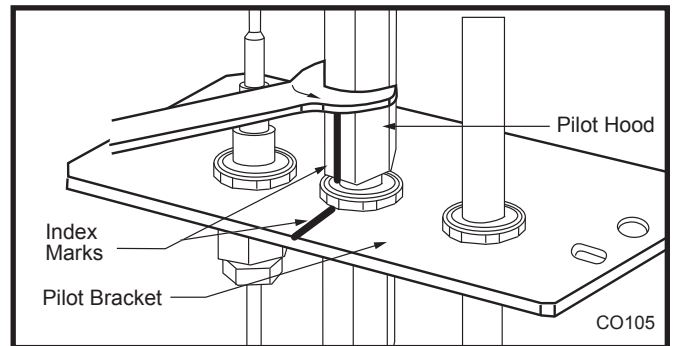

Fig. 58 Remove pilot hood. (Your pilot may have a different appearance.)
- Loosen pilot hood turning counterclockwise using a 7/16" wrench. (Fig. 58) **NOTE:** You may use penetrating oil to prevent pilot hood threads from seizing up.